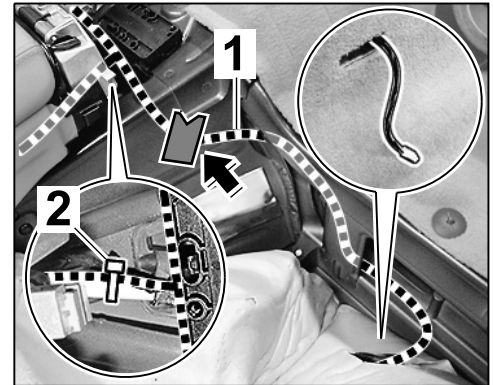

Figure 14
3.2.4 Secure wire harness ⇒ Figure 14 -1- to the body with adhesive tape ⇒ Figure 14 -arrow-.
Using a tie-wrap, fasten the wire harness to the shift cable boot ⇒ Figure 14 -2-.